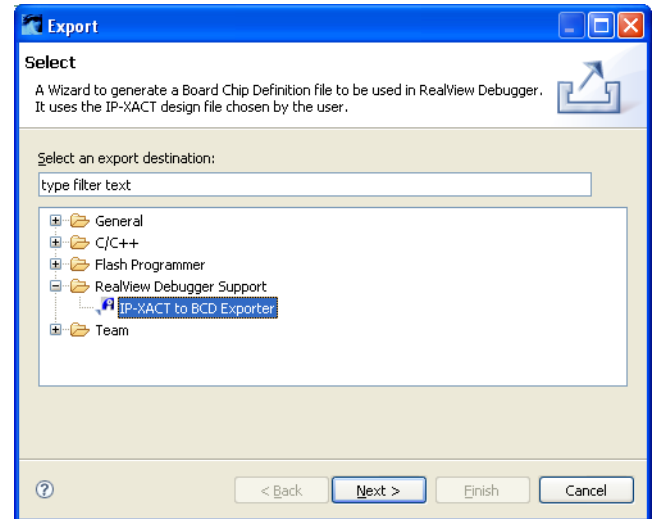

Figure 7-2 Export IP-XACT to RealView Debugger
2. Select **RealView Debugger Support** → **IP-XACT to BCD**, see Figure 7-2. Click on **Next**.